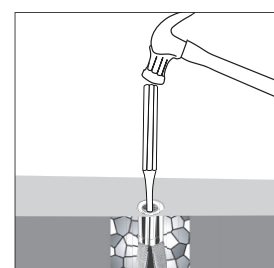

Figure 9
8. Hammer a drift punch or phillips head screwdriver into the expanding bolt so that it flares out and firmly locks into place to prevent it from turning when mounting the safe (Figure 9).